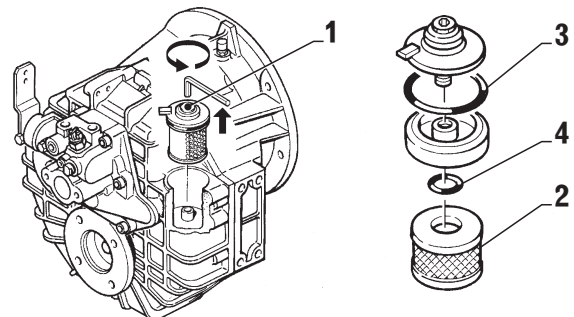

FIG. 1-1
Turn the screw that fixes the oil filter cover in a counter-clockwise direction and remove the filter from its housing (item 1, fig. 1-1). Use a 6 mm Allen wrench. Pull filter element off (item 2, fig.1-1). Check O-rings (item 3 and 4, fig. 1-1) for wear, replace if necessary.